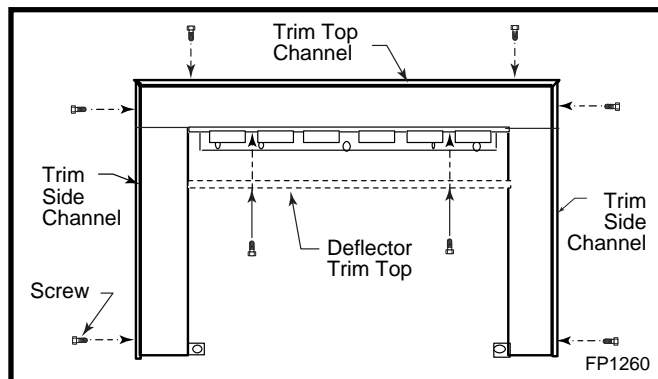

Fig. 39 Install trim channels and trim top deflector.
RHES, RHESL and RHESXL (Fig. 39)
3. Install the trim top deflector and use two screws to fasten it. (Fig. 39 & 40)